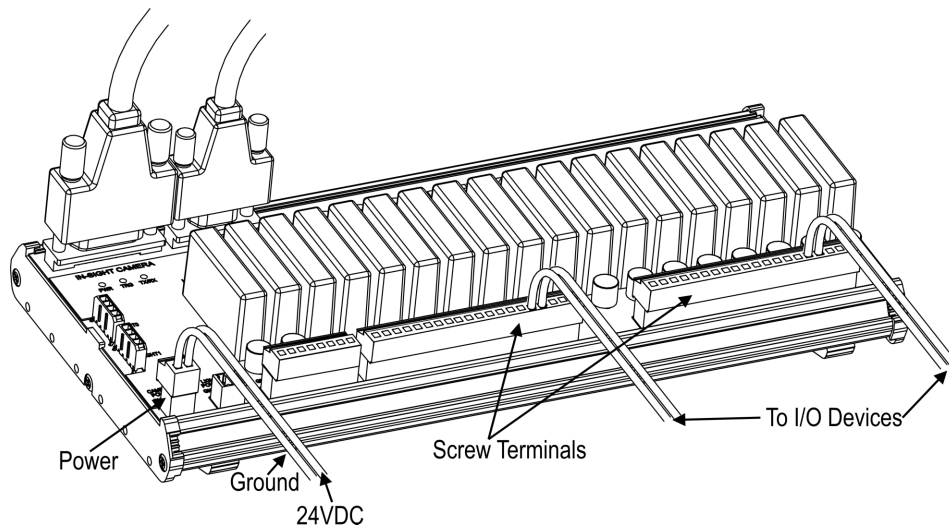

Figure 3-6: Connecting I/O Wires
2. Connect the power and ground wires from remote I/O devices to terminals on the 1460 I/O Expansion Module (Figure 3-6).